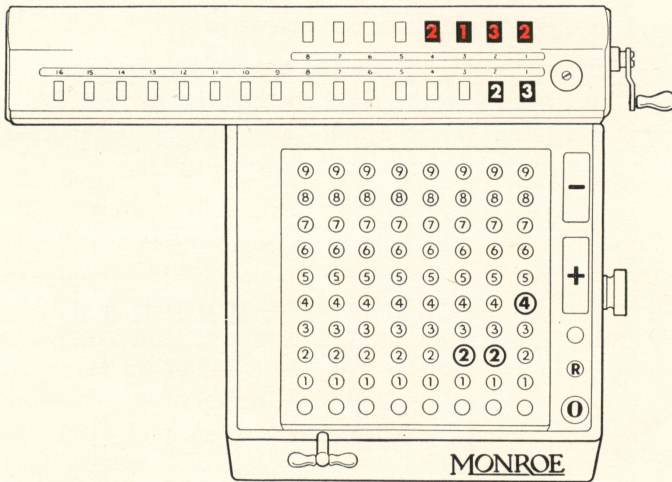

Figure 7
**Step 5**—Continue this operation, shifting the carriage and depressing minus and plus bars. At the completion of the problem the quotient, **2132**, will appear in the upper dials and the remainder, 23, will appear in the lower dials. The machine at this point appears as shown in Figure 7.